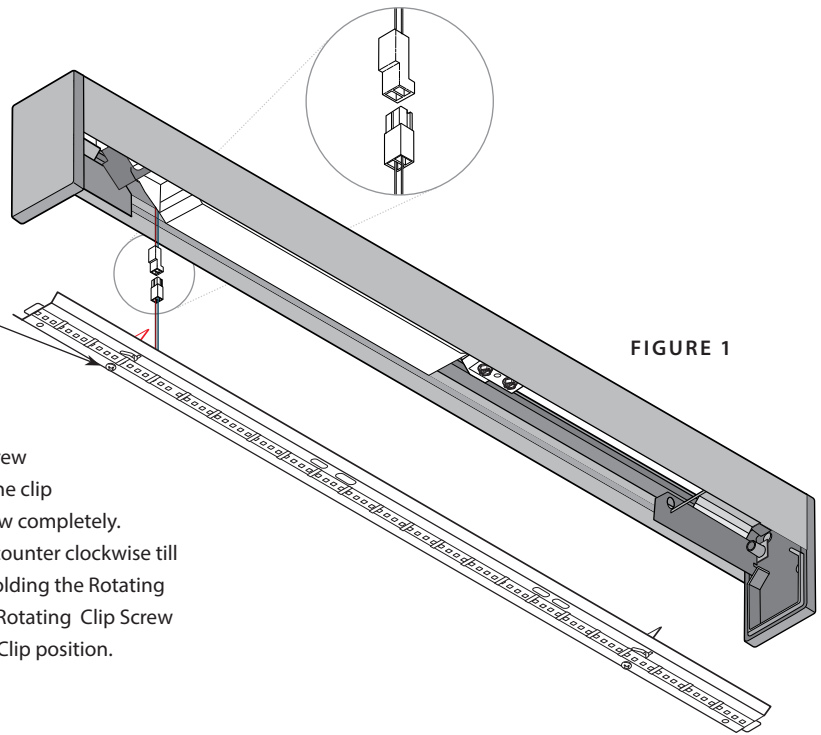

FIGURE 1
2. Unlock LED tray from clips and remove the LED tray by unplugging the LED lead wire disconnects on first fixture, remove LED Tray (figure 1).
1. Unlock LED tray from clips and remove the LED tray by unplugging the LED lead wire disconnects on first fixture, remove LED Tray (figure 1, page 3).